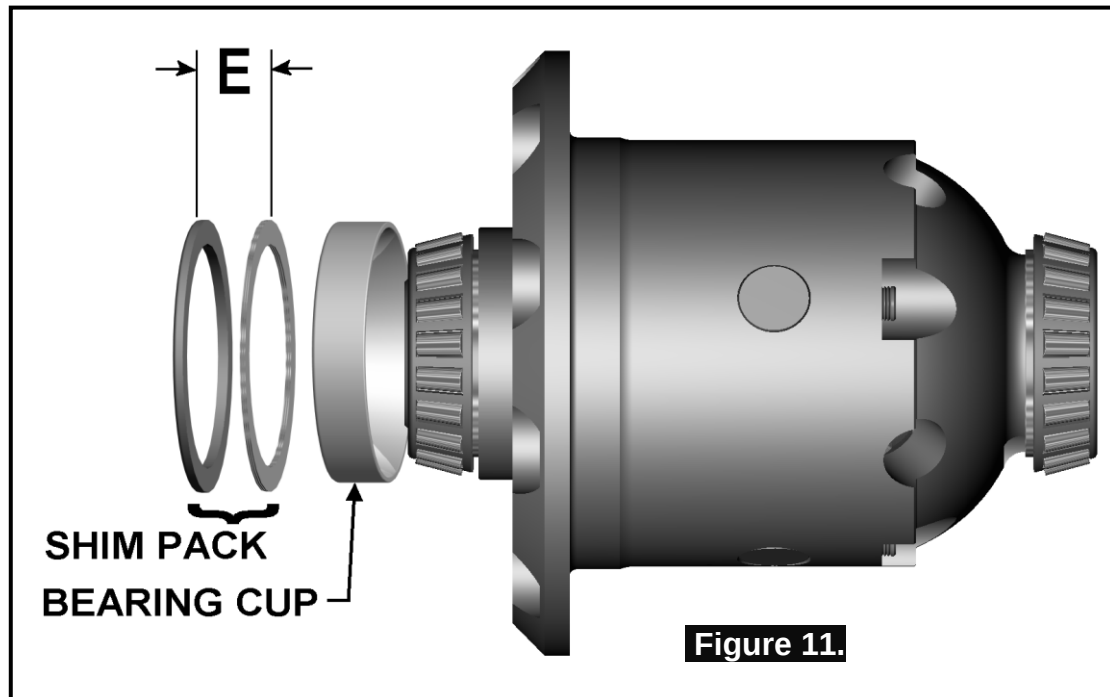

Figure 11.
In order to pre-load the tapered roller bearings in your *Air Locker*, measurements need to be taken so that a value can be calculated for the shim thickness '**E**' in Figure 11.
- ☐ Add the specified pre-load amount to the measurement taken with the feeler gauge to determine a shim amount for 'E' in Figure 11.
- ☐ Install shim pack 'E' to the flange cap side (left hand side) between the axle housing and the bearing cup as shown in Figure 11.
- ☐ To decrease the amount of backlash, reduce the shim thickness 'D' (Fig. 7.) and increase the shim thickness 'E' (Fig. 11.) by the same amount. Reverse this step to increase the backlash.